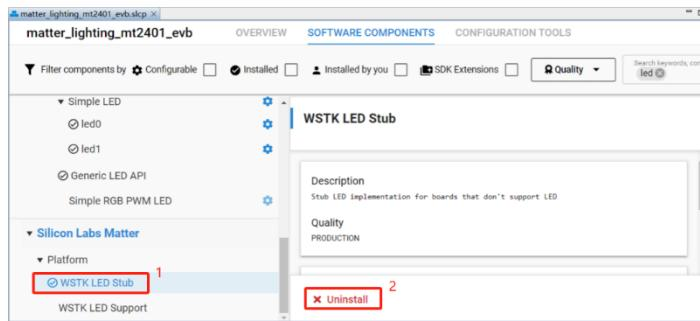

Figure 5.6
- 1) Delete the "Silicon Labs Matter -> Platform -> WSTK LED Stub" component, as shown in figure 5.6